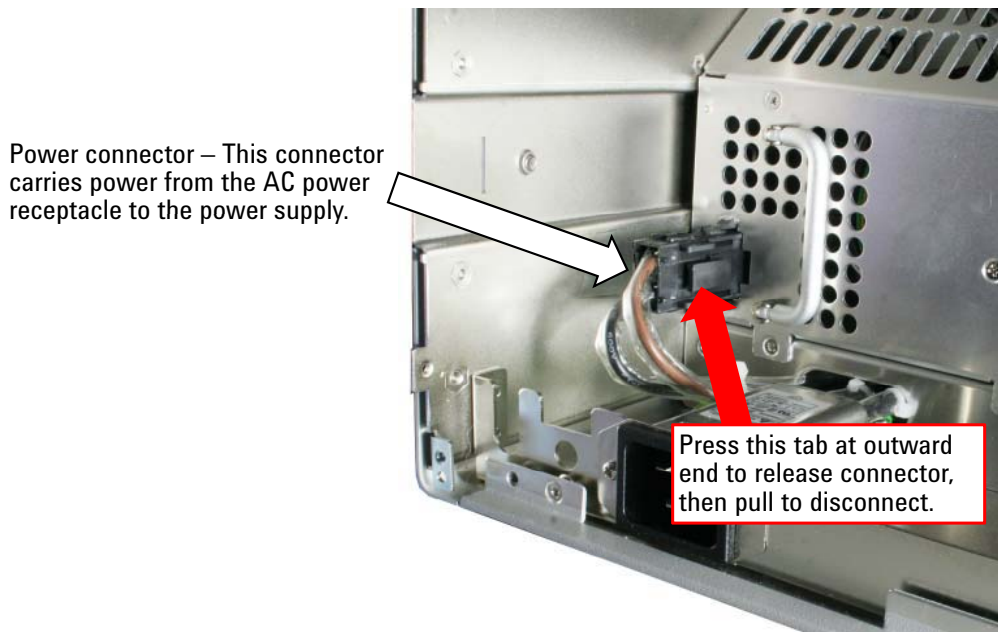

Figure 91 Remove the power supply connector
- 8 Next, the AC power connector to the power supply is removed. To remove this connector, press in on the tab shown in Figure 91 and pull the connector from the power supply.
- c** Reconnect the AC power connector shown in Figure 91. Push firmly and ensure that you hear an audible click upon insertion.